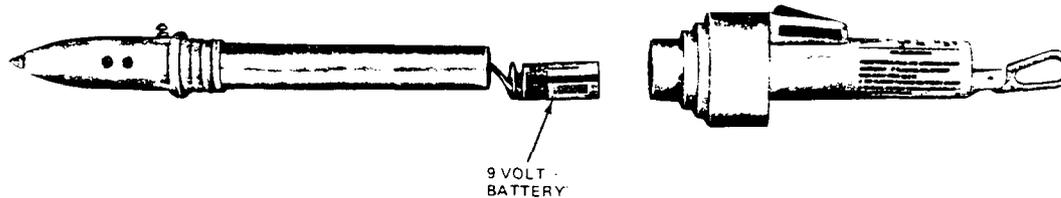

Fig. 16--Battery Location
- 11.05 When replacing batteries (Fig. 16), always use a 9V alkaline such as Eveready* 522. Batteries of other manufactures may be physically larger and could damage the test set if used. As the battery becomes weak the green LED will become dim or will not light. When this occurs, the battery should be replaced. To prevent damage to internal components, exercise care when replacing the battery.